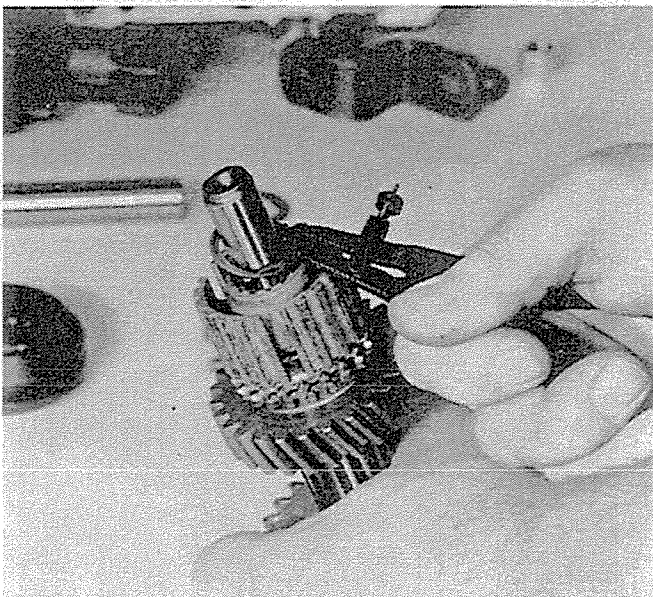

FIGURE 7
16. Remove the retaining ring that retains the second and high hub to the main shaft. Figure 7.